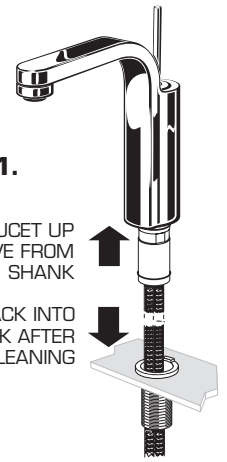

FIG. 1.
- This product has a feature, which allows the customer to easily remove the fitting from the deck allowing access and cleaning of the deck and edge of the faucet. Simply lift the faucet while still connected to the supply lines, than lay flat on the counter. After cleaning simply push back into the mounting shank. **FIG. 1.**